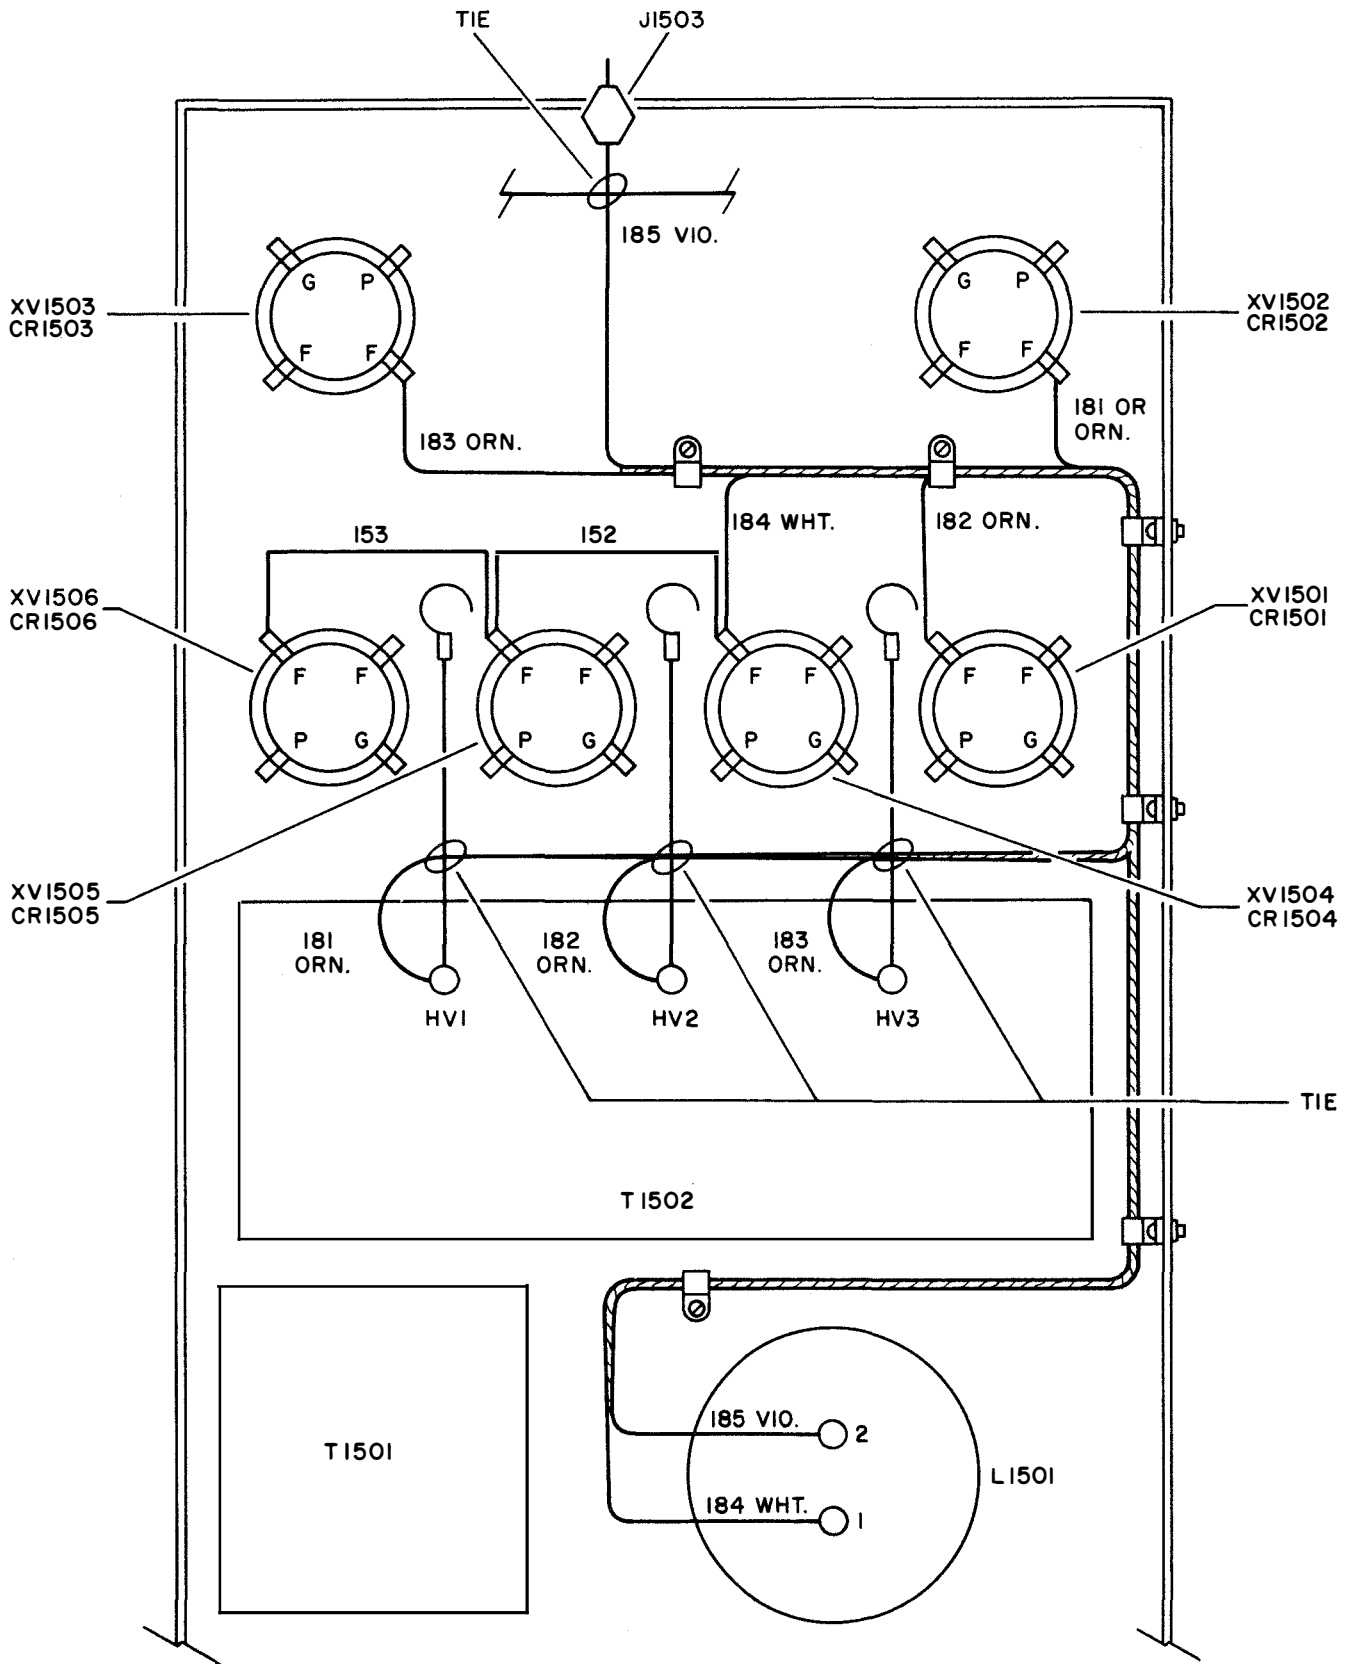

Figure 2. Field Change, Partial Wiring Diagram
11. Using the supplied solvent (item number 4), remove any of the old tube designations that are visible on the chassis. Spot tie the new high voltage cable, as indicated in figure 2, using the lacing cord supplied.